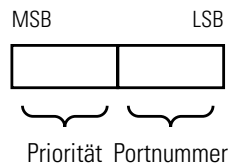

Fig. 36: Port identification
- If there are two paths leading away from a single bridge with the same root path costs, the port identification is used as the last criterion for determining which path is used (see Fig. 36). It decides which port is selected.